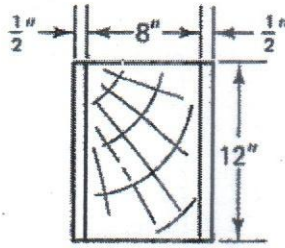

Fig. 11
6. (a) Determine the allowable bending moment around horizontal neutral axes for the composite beams of wood and steel plates having the cross-sectional dimensions shown in Fig. 11. Materials are fastened so that they act as a unit. $E_{st} = 30 \times 10^6$ psi and $E_w = 1.2 \times 10^6$ psi. The allowable bending stresses are $\sigma_{st} = 20$ ksi and $\sigma_w = 1.2$ ksi. (10)